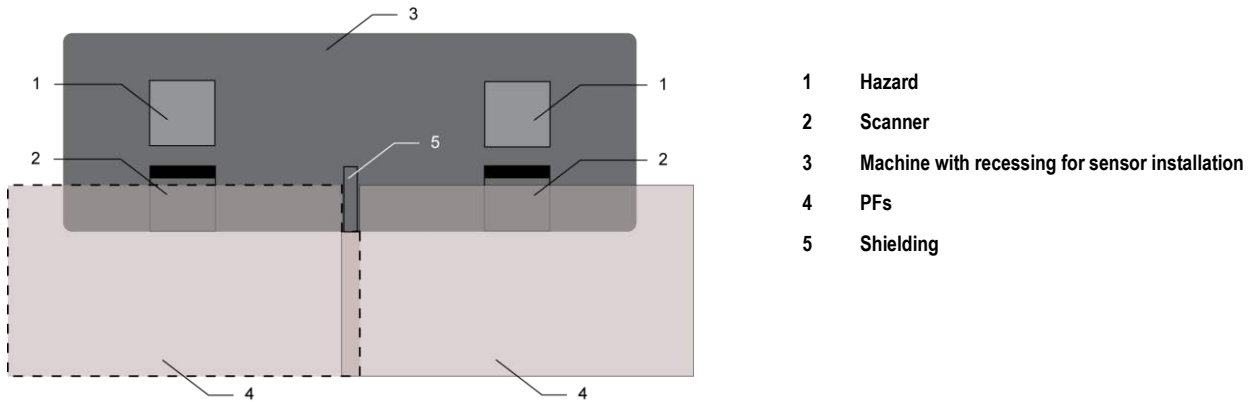

Figure 3-5. Use of shielding to prevent overlapping Protective Field influences from adjacent Scanners
The Scanner design minimizes the possibility of optical interference from adjacent Scanners. Light from adjacent scanners (including those of other manufacturers) can cause the response time to increase by 40 ms if the fields overlap in the same plane (see Figure 3-5 below).
- For scanners mounted side-by-side, this shielding must be at least at the height of the front screen (window) and flush with the front of the housing (see Figure 3-5).